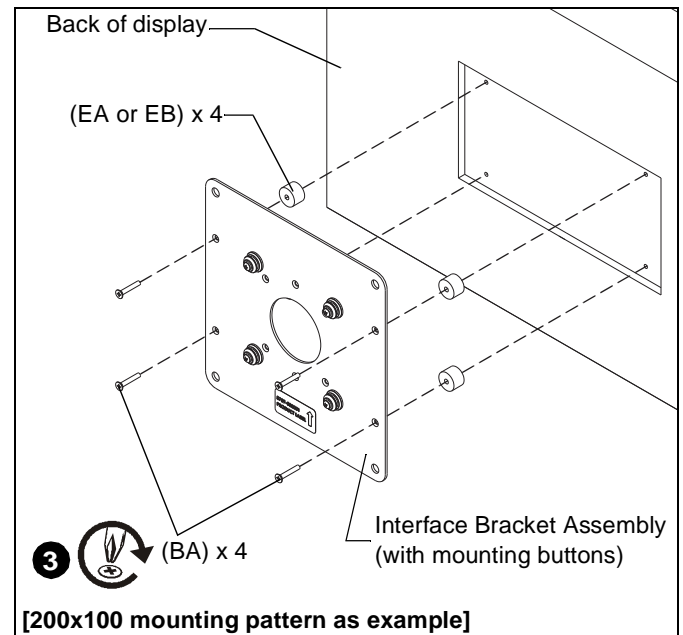

Figure 3
1. Align and place four spacers (EA or EB) over mounting holes in display back. (See Figure 3)
2. Align and place interface bracket assembly over four spacers (EA or EB). (See Figure 3)
3. Secure interface assembly to display back using four M4 x 25mm (BA) Phillips flat head screws. (See Figure 3)